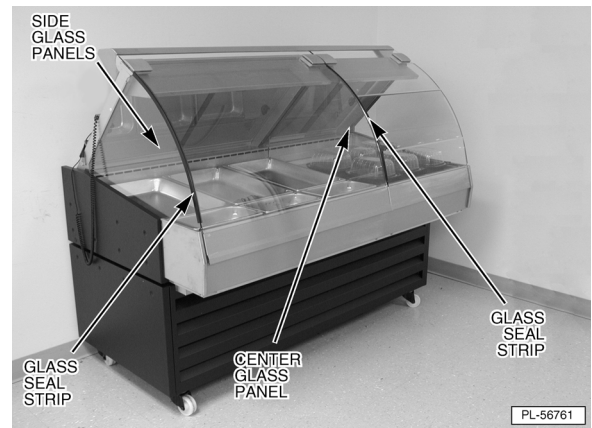

Fig. 3
- **Full-Service portion of the combination case:** Install the black glass seal strip on the LEFT side and CENTER glass panels (Fig. 3). Make sure the lip of the glass seal strips face toward the inside of FULL-SERVICE portion of the case.